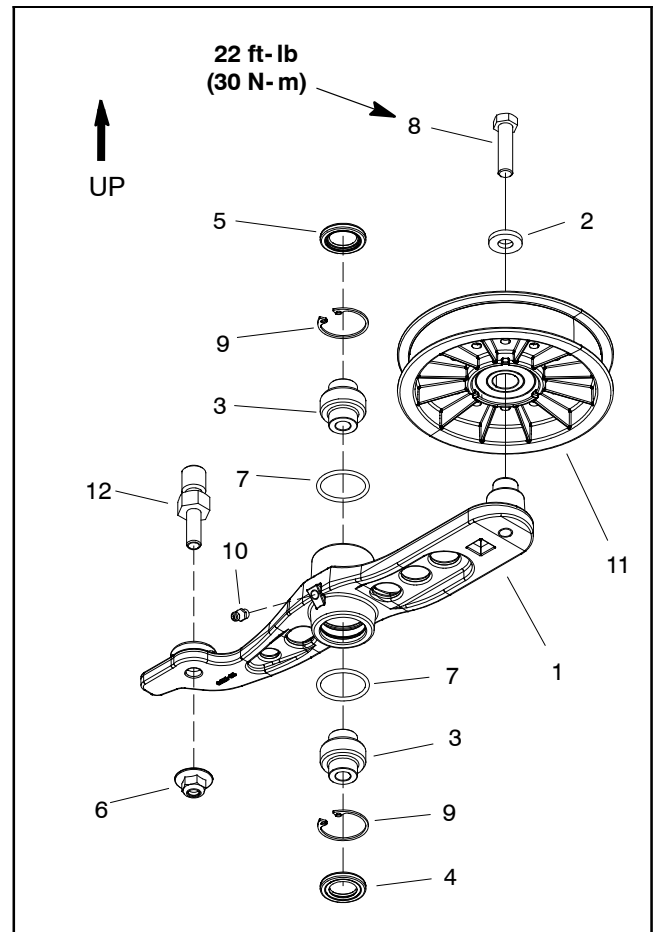

Figure 41
3. Remove flange nut (item 11) that secures idler assembly to carriage screw (item 2). Lower idler assembly from carriage screw and remove from machine.
4. Disassemble idler assembly as needed using Figure 41 as a guide. Note orientation of seals (items 4 and 5 in Fig. 41) during disassembly.
1. Assemble idler assembly using Figure 41 as a guide and the following:
A. If removed, install new O-rings (item 7 in Fig. 41) into grooves of idler arm. Do not apply grease or oil to the O-rings.
B. During bearing assembly into idler arm, press equally on inner and outer bearing races (item 3 in Fig. 41). Bearings should be pressed into arm so that retaining rings can be installed after bearing installation. Make sure that retaining rings are fully installed in idler arm grooves and that bearings turn freely after installation.
C. The lips of the double lip seal (item 4 in Fig. 41) should be greased before installation.
D. The lip of the single lip seal (item 5 in Fig. 41) should NOT be greased before installation. Also, the single lip seal garter spring should be installed facing outward.
E. Torque cap screw (item 8 in Fig. 41) to **22 ft-lb (30 N-m)** to secure idler pulley to idler arm.
2. Slide idler assembly onto carriage screw (item 2) and secure to the machine with flange nut (item 11).